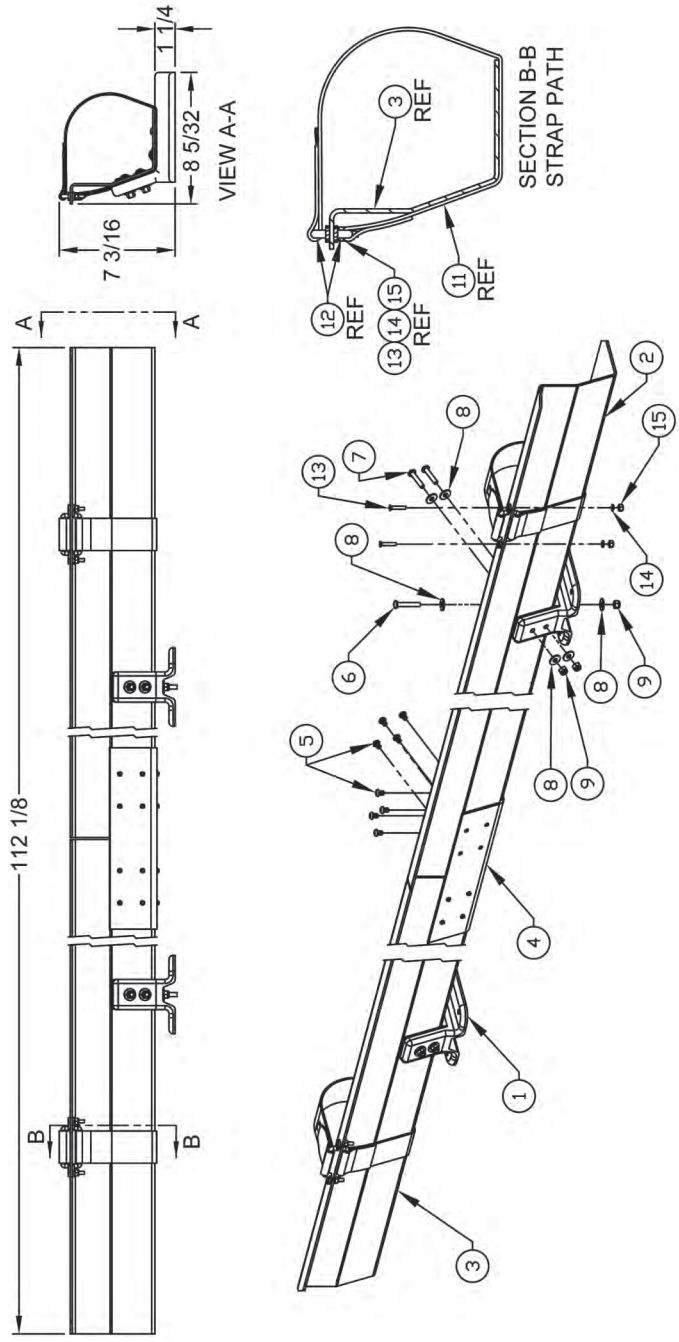

FIGURE 3
- C. HHS-TM-1-ST: Horizontal Hard Suction Mounting Kit with (1) 10' Split Tray. (Figure 3)